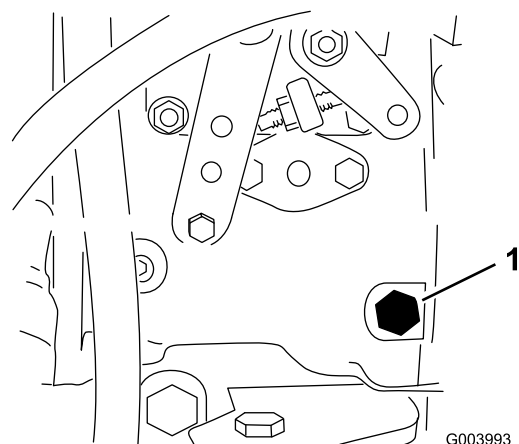

Figure 37
3. Open the air bleed screw on the fuel injection pump (Figure 37) with a 12 mm wrench.